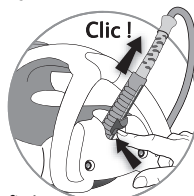

fig.4
- Press the button located on the base (fig.4) and the Easycord system is automatically in use. You can now plug in your appliance and begin ironing.